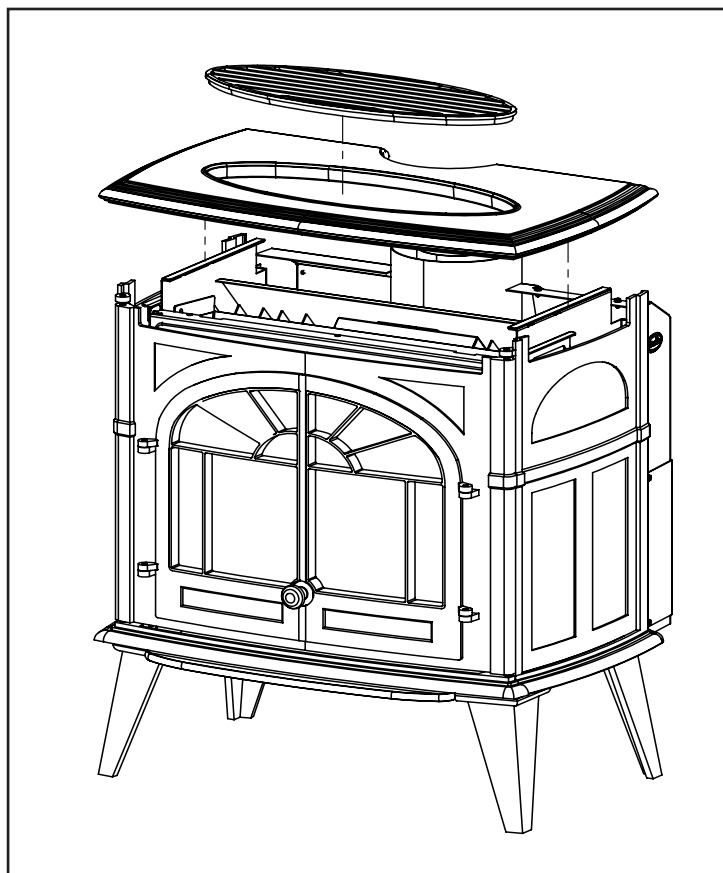

Figure 43: Removal of Stove Top
1. Carefully remove the trivet and the stovetop. Place on a soft surface as not to damage the porcelain finishes (see Figure 43).